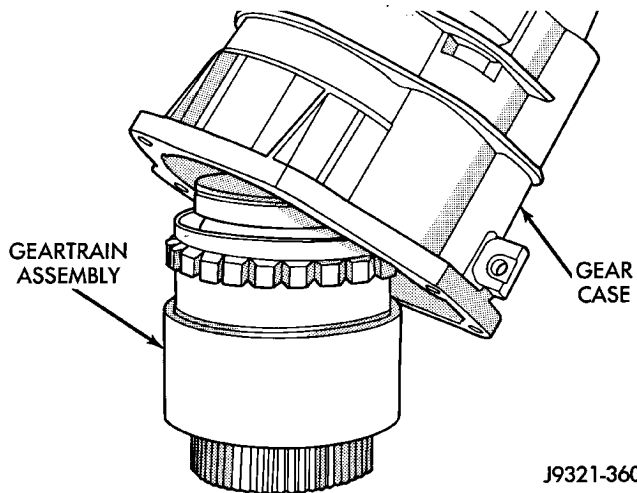

Fig. 206 Removing Gear Case From Geartrain Assembly
(6) Lift gear case up and off geartrain assembly (Fig. 206).